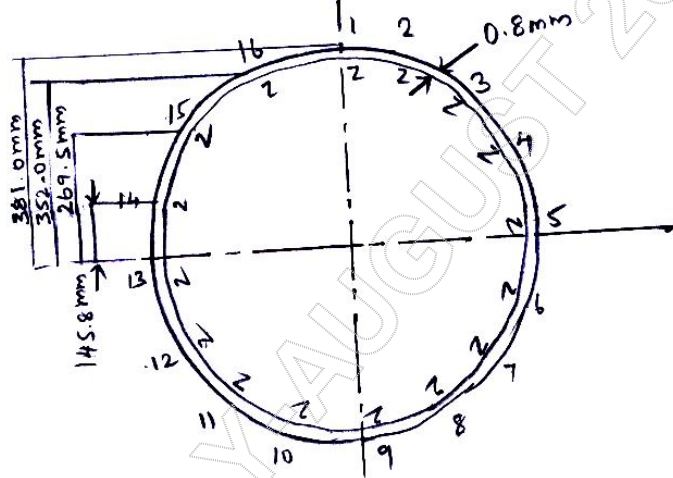

Fig. Q10 (b)
- b. The fuselage of a light passenger carrying aircraft has the circular cross section shown in Fig. Q10 (b). The cross sectional area of each stringer is 100 mm^2 and the vertical distances given in Fig. Q10 (b) are to the mid-line of the section wall at the corresponding stringer position. If the fuselage is subjected to a bending moment of 200 kNm applied in the vertical plane of symmetry, at this section, calculate the direct stress distribution. (10 Marks)